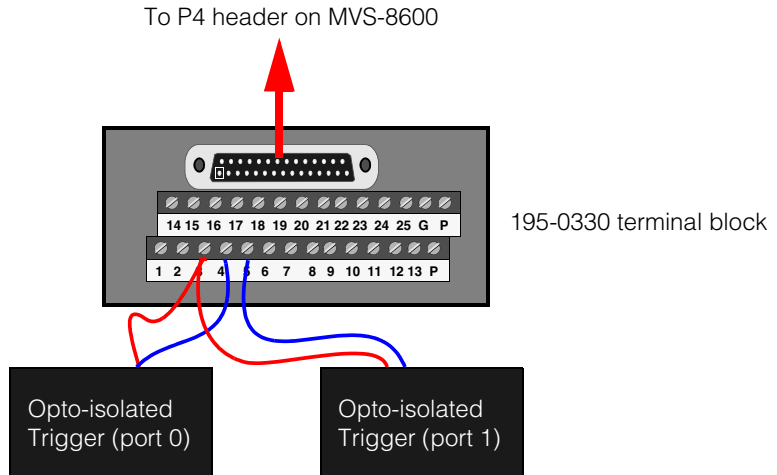

Figure 10. Wiring triggers for I/O option 3
For I/O option 3, all the pins on the I/O connection module are devoted to encoder connections. In this case, connect the I/O extension cable (300-0240), and optionally a terminal block (195-0330) from the *General-Purpose I/O Kit*, to the frame grabber's P4 connector, and connect the trigger device's wires as shown in Figure 10 and described in Table 5.
**Note** Power supply wiring for trigger devices is not shown in Figure 10. The 195-0030 terminal block does not supply power.